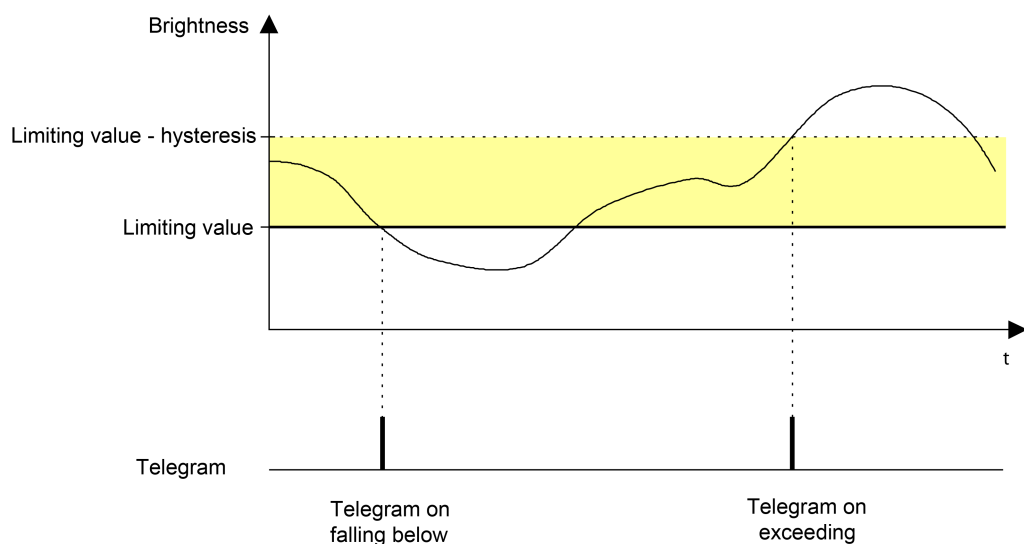

Figure 68: Example 2 of the limiting value definition
2. Brightness limiting value = Lower threshold (see figure 68)